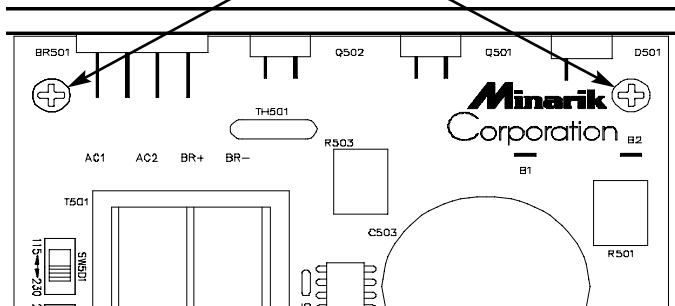

Figure 1. Mounting Screw Location
1. Remove the two mounting screws as shown in Figure 1. Discard these screws.